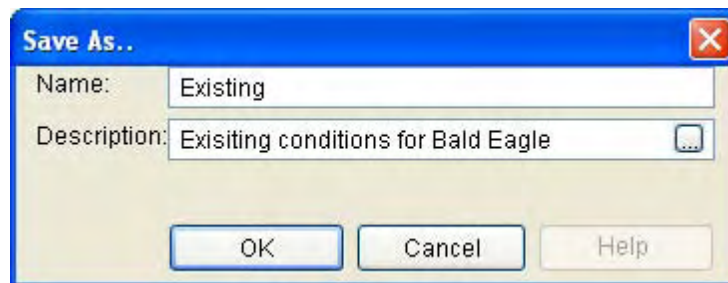

Figure 7.7 Configuration Menu, Save As...
2. From the **Configuration** menu, click **Save As...**, and the **Save As.** dialog box (Figure 7.7) opens.